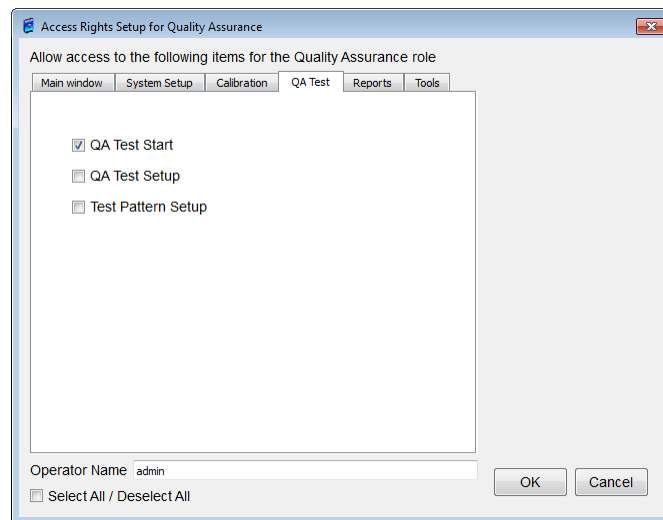

Figure 110: Access Rights Setup for Quality Assurance dialog box (QA Test)
- **QA Test tab (Figure 110)**